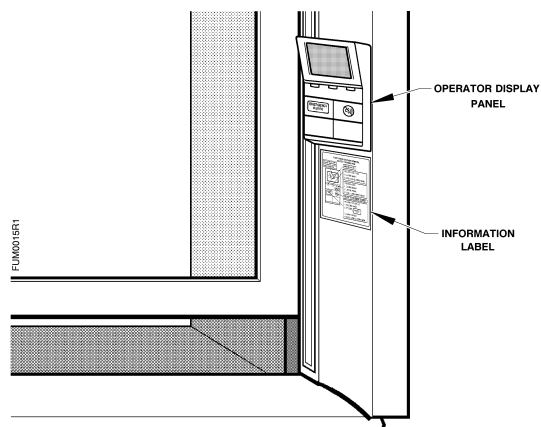

Figure 6. Placement of Information Label.
7. Apply the information label to the fume hood as close to the ODP as possible (Figure 6).